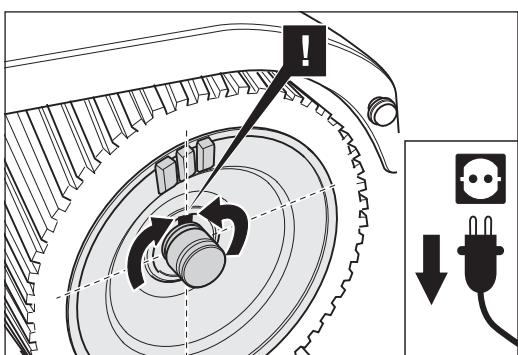

Fig. 49 Turn the sanding drum in such a way that the groove is pointing upwards, to ensure that the parallel key is not lost.
- 6 Turn the sanding drum in such a way that the parallel key is pointing upwards to ensure that the parallel key is not lost (Fig. 49). Now pull the sanding drum out sideways out of the housing.